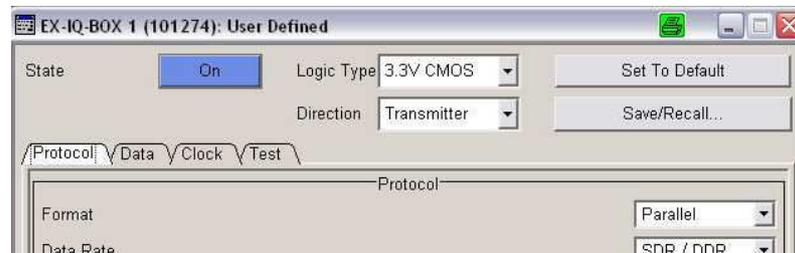

Figure 17: Starting the R&S EX-IQ-Box
- ▶ Click *State On* in the main panel (see Figure 17).